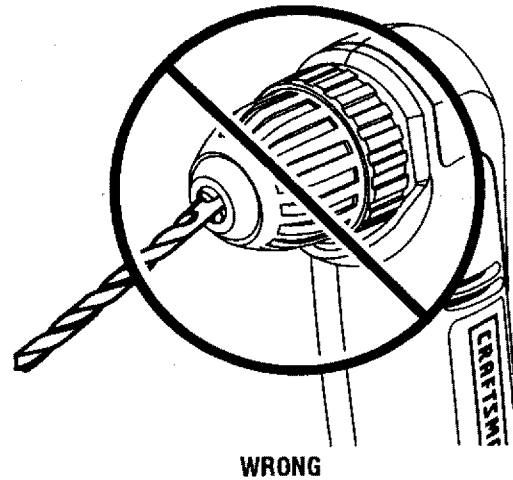

Fig. 7
**⚠ WARNING:** Make sure to insert the drill bit straight into the chuck jaws. Do not insert the drill bit into the chuck jaws at an angle then tighten, as shown in figure 7. This could cause the drill bit to be thrown from the drill, resulting in possible serious personal injury or damage to the chuck.